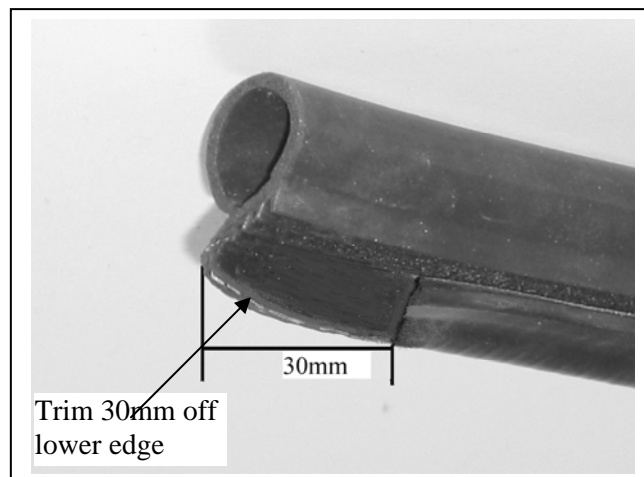
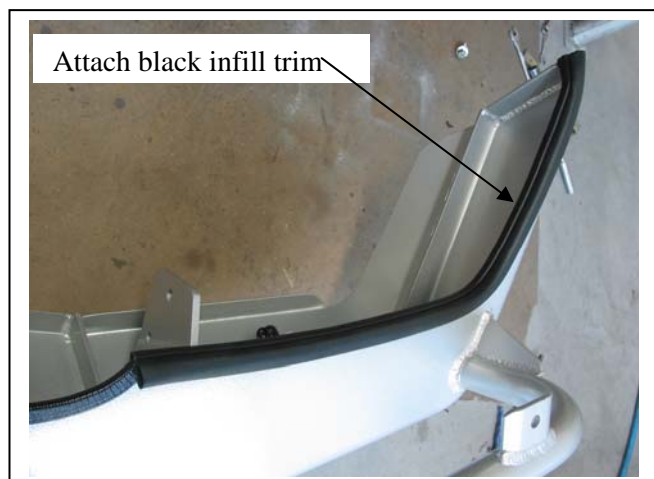

Figure 10
Figure 11
11. Trim 30mm off lower edge of infill trim (supplied), so trim will sit over end of protection bar. **See figure 10.** Fit infill trim to sides of protection bar from clip lock trim to ends. **Trim excess off end to follow protection bar. See figure 11 and 12. NOTE:** Seal any exposed edges of trim with silicone or similar to avoid corrosion of inner steel.